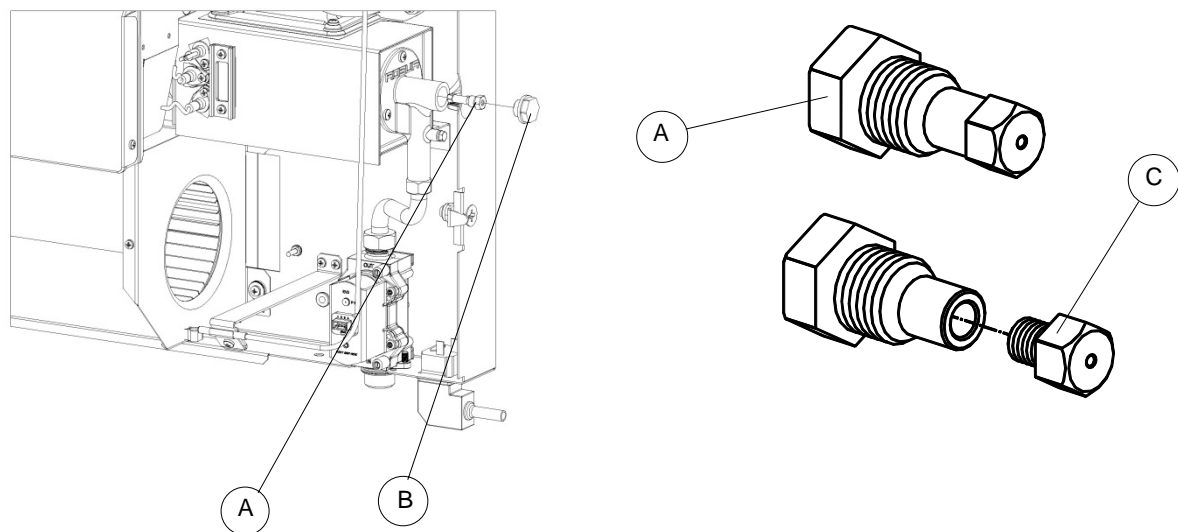

Figure 17 – Detail of burner assembly and detail of the injector holder and calibrated injector
3. Using a no.19 wrench, unscrew plug "B" (see Figure 17).
4. Using a no.10 socket wrench introduced in the opening, unscrew the injector holder "A" (see Figure 17).
5. Unscrew the calibrated injector C from the injector holder A and fit the replacement injector (see Figure 17).